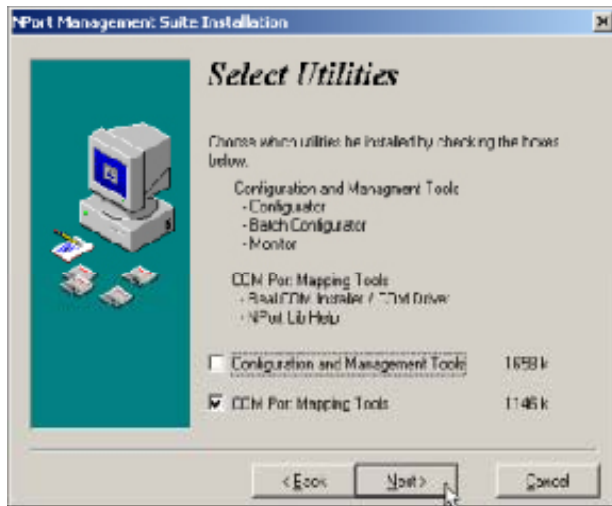

Figure 2-25
4. Follow the onscreen prompts, and after installation is complete the **Select Utilities** window will open. **Figure 2-25**